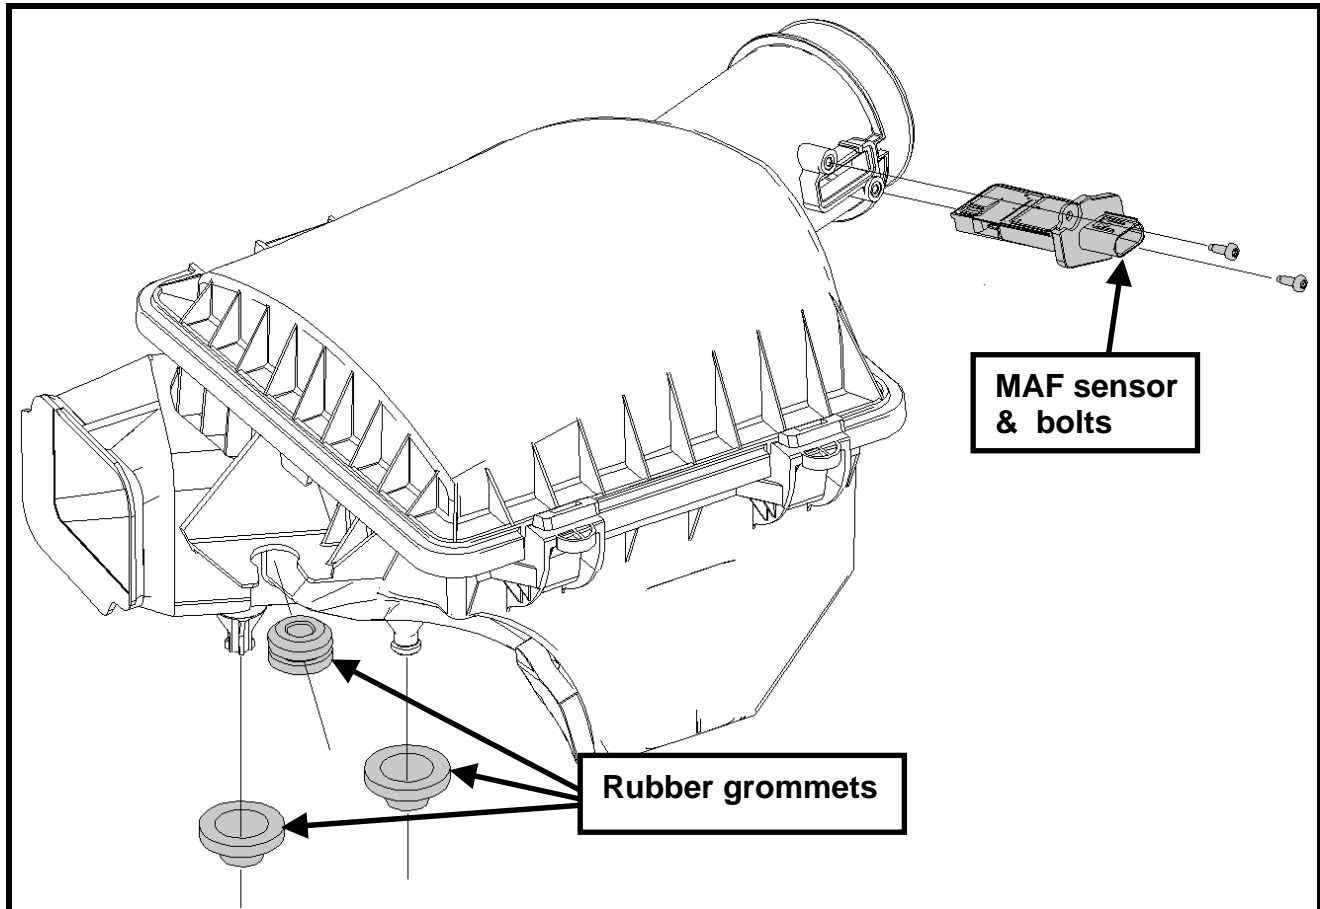

Fig. 3
**STEP 5:** Remove the three grommets, MAF and MAF bolts from the factory airbox (See Fig. 3). These will be reused.